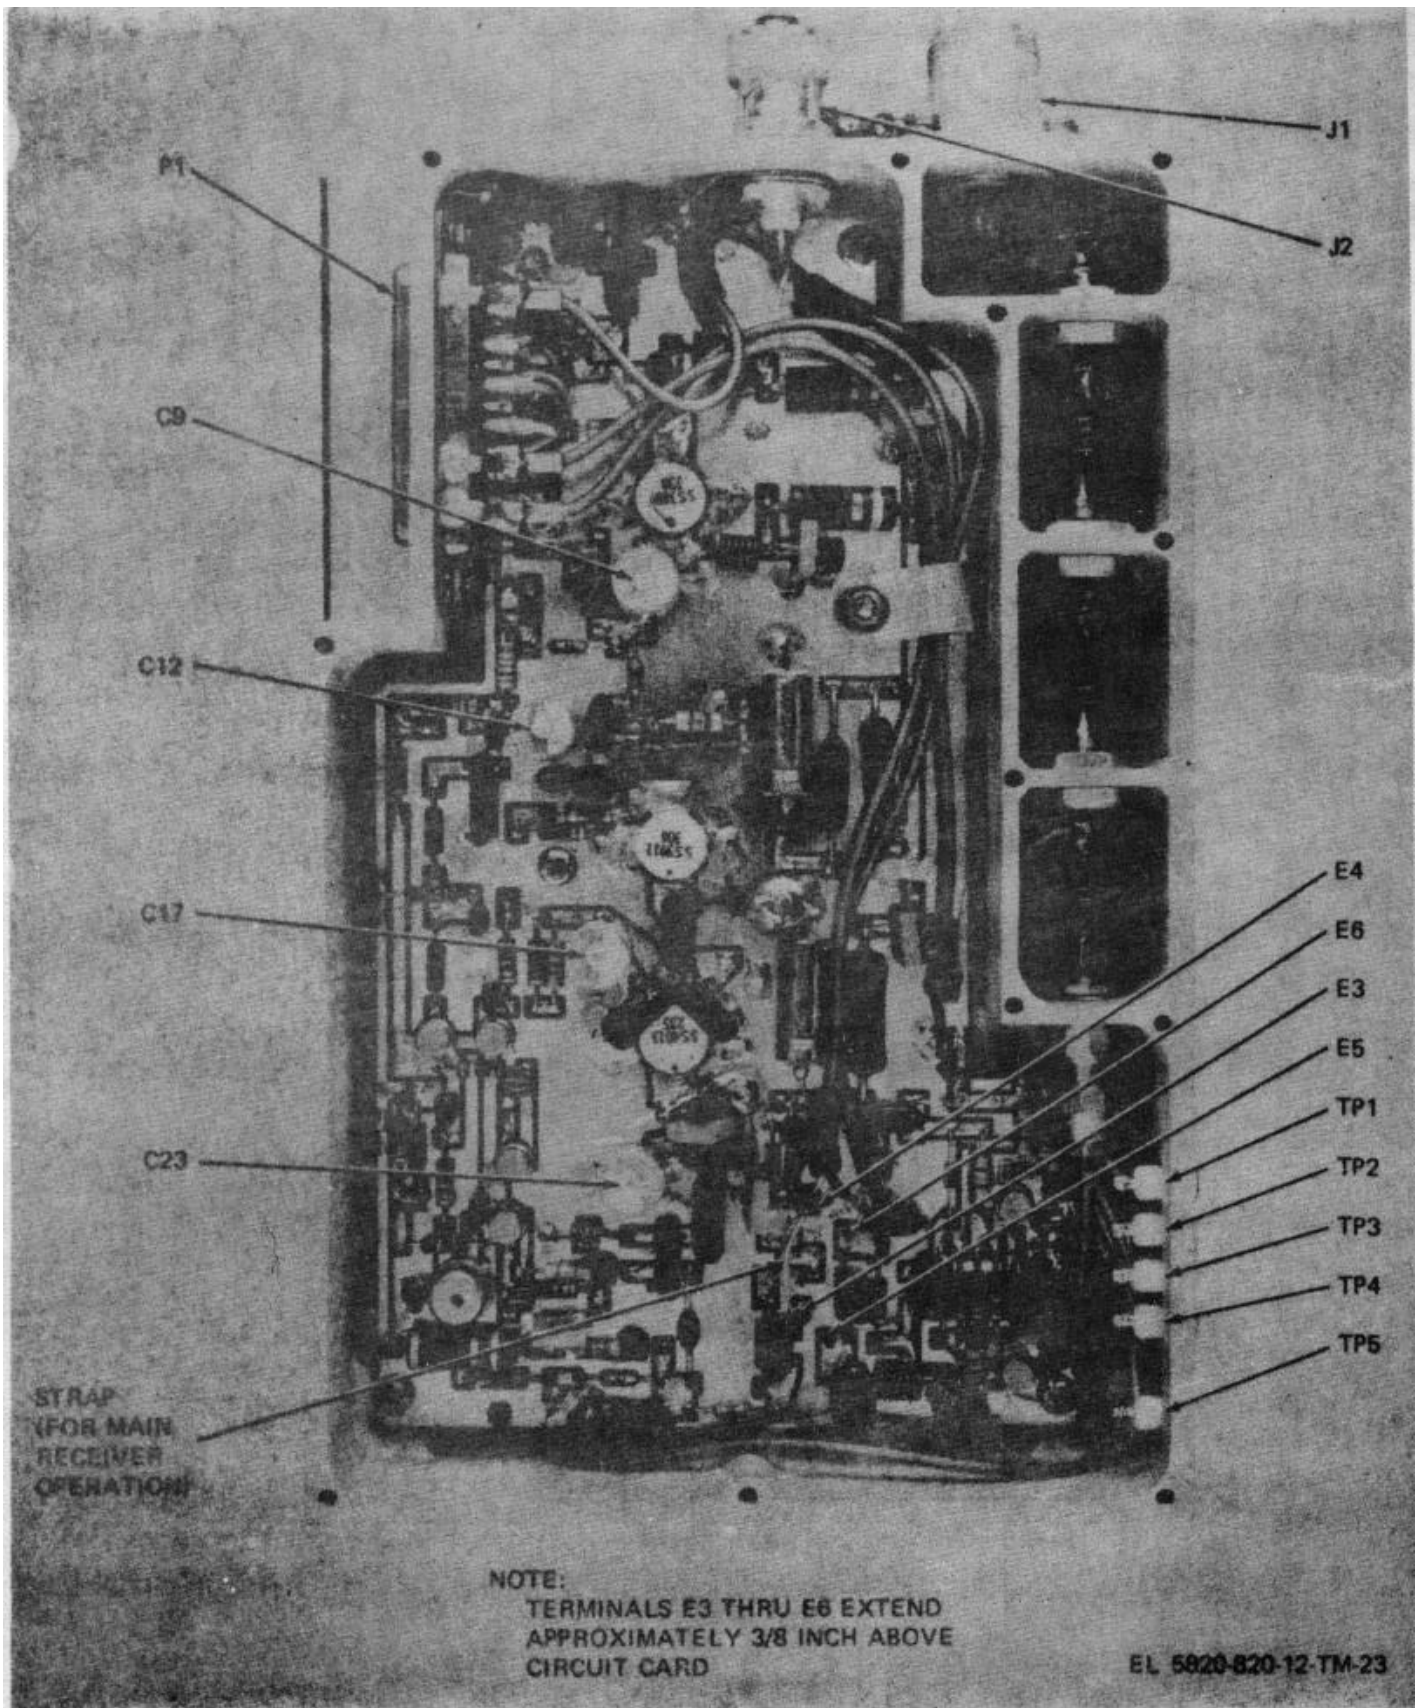

Figure 1-8. Power amplifier module 6A1, cover removed.
- (1) Power amplifier module 6A1 (figure 1-8)